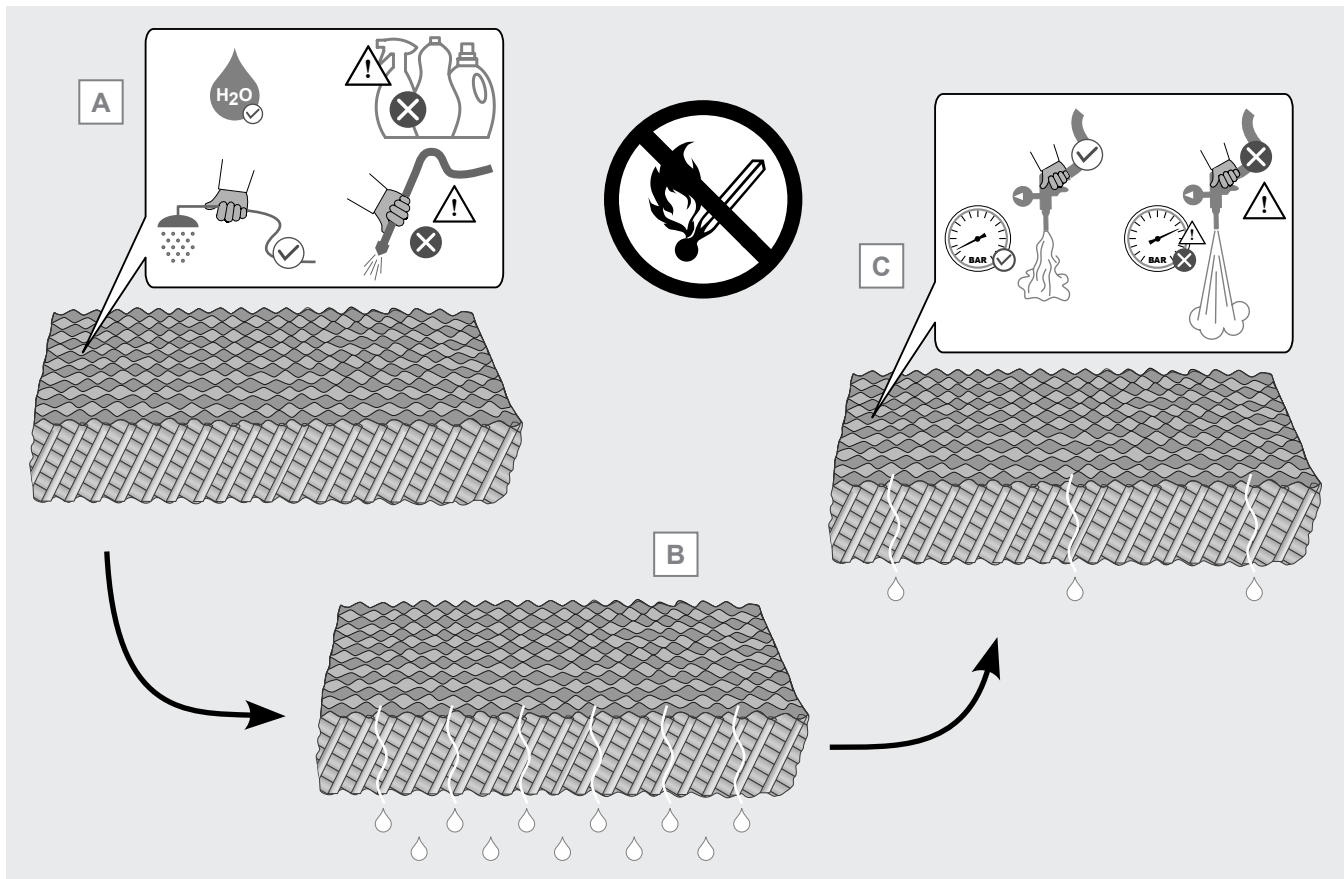

Figure 19
- 12.9.11 Use only water for cleaning. Do not use detergents, descaling agents, foaming, acidic or alkaline substances. The use of detergents or other substances to clean the panels can lead to deterioration of the cardboard, algae growth and bacterial growth. Algae, bacteria and micro-organisms in general can permanently compromise the structure of the panel and thus its performance. See Figure 19 A.
- 12.9.12 After cleaning, allow the water to drain from the panel for a few minutes, see Figure 19 B. If necessary, remove the excess water with a low-pressure compressed air jet. Take care not to damage the panels with excessive pressure, see Figure 19 C.